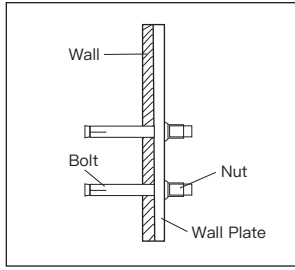

Fig. 4
3. Use the bolts to attach the wall plate to the wall and tighten the nuts (See Fig.4).